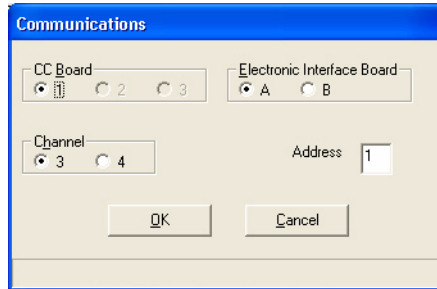

Figure 7-54 Communications Window
- Touch **Communications** to display the Communications window. See Figure 7-54.